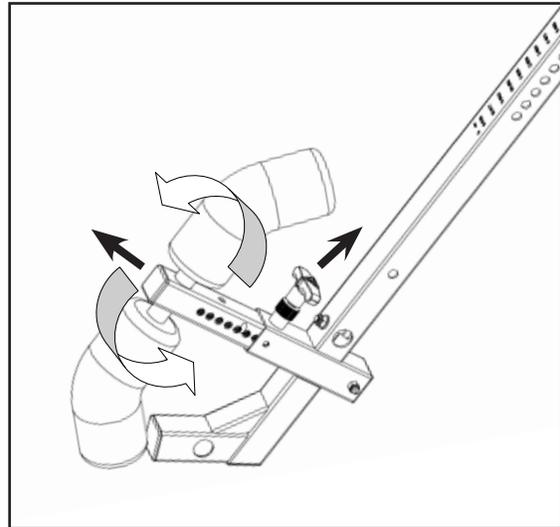

Figure 10
- Pull up on the locking pin of the Ankle Clamps (Figure 10).